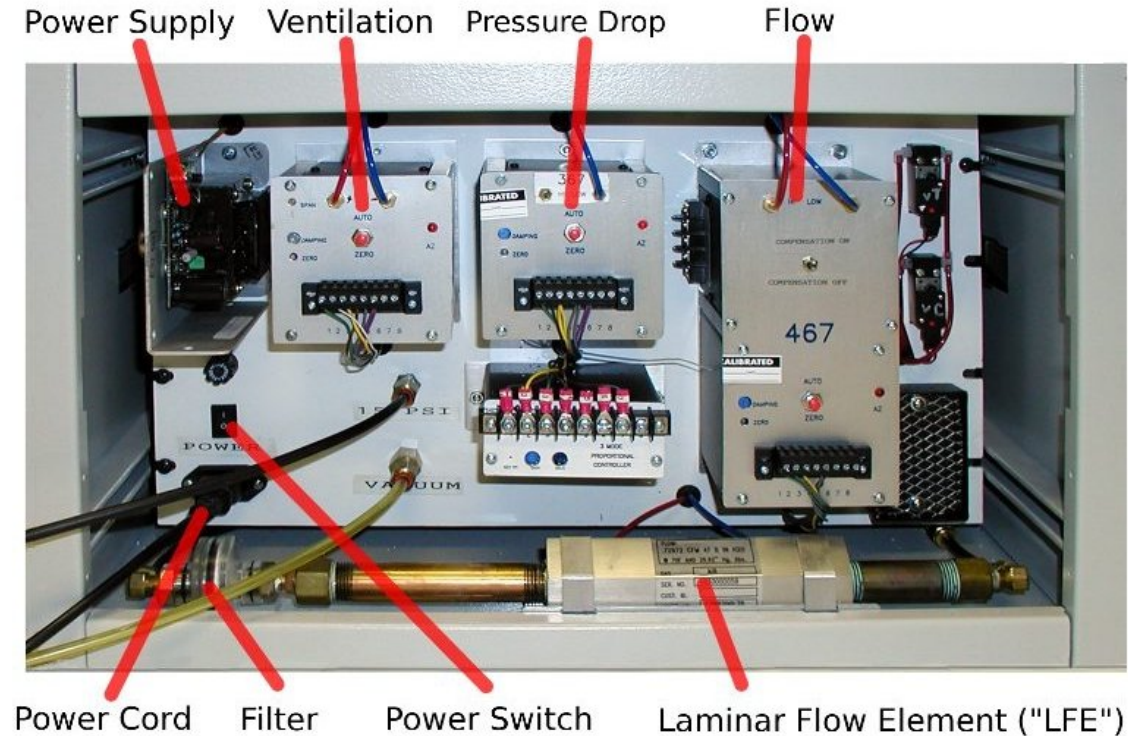

Figure 1
1. Turn on the power switch located on the back panel beside the power cord (see Figure 1). Allow the unit 10 minutes to warm up and acclimate itself to the room's conditions before attempting to run any tests.